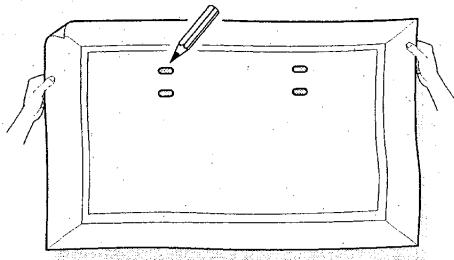

fig. 4
Note: the enclosed template can be used for general positioning only (fig. 4).
- 1 Determine desired location to mount Display Unit. Use the enclosed template for alignment purposes. (fig. 4)